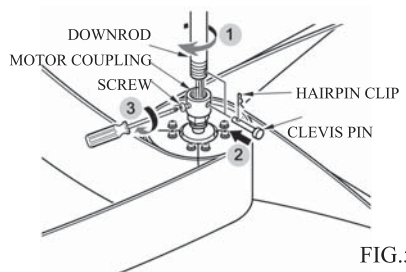

FIG.5
3. Carefully feed fan wires up through the downrod. Thread downrod into the motor coupling until the holes are lined up and secure with the hairpin clip and clevis pin previously removed, tighten set screws. ( See Fig. 5 )